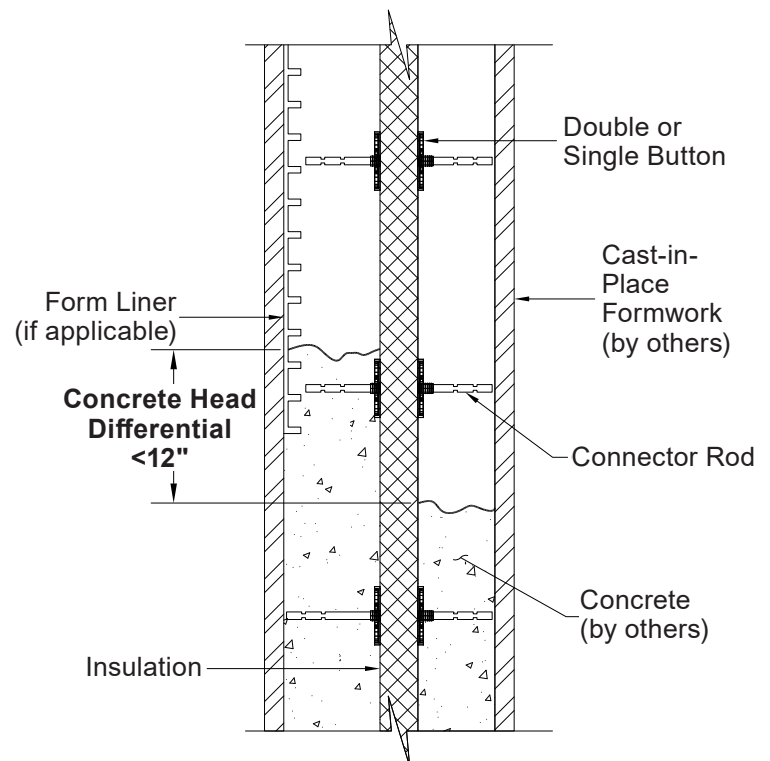

Figure 4 – Section through Thermomass CIP wall during concrete pouring process
- 4. PLACE THE CONCRETE** Use accepted practice for concrete mix design and placement procedures for thin wall sections. If multiple walls intersect, start the concrete placement at the insulated walls. ***Ensure that the concrete is placed on both sides of the insulation with a maximum head differential of 12"*** (Figure 4). Vibrate concrete properly to ensure full consolidation around connectors and reinforcement and to assist with flow of concrete to required location.